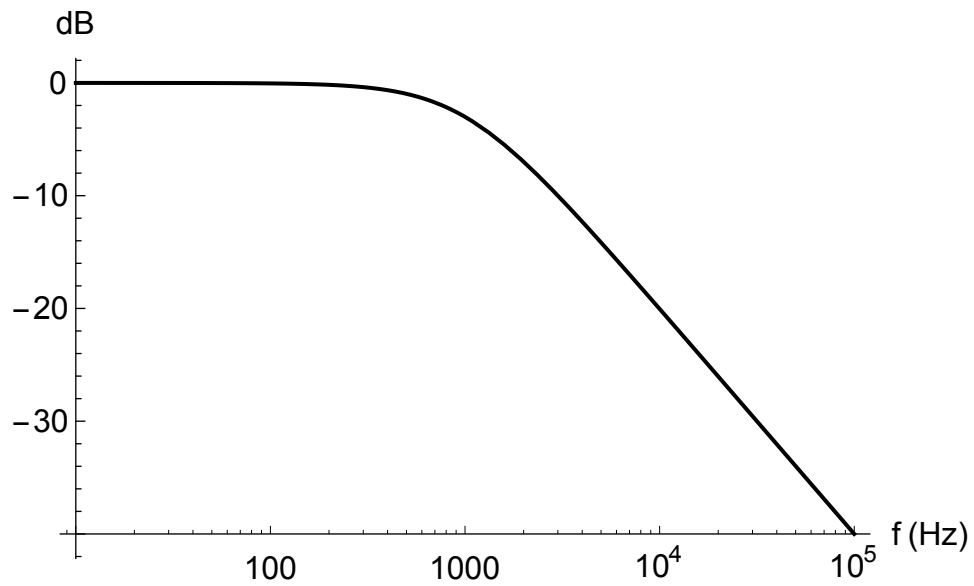
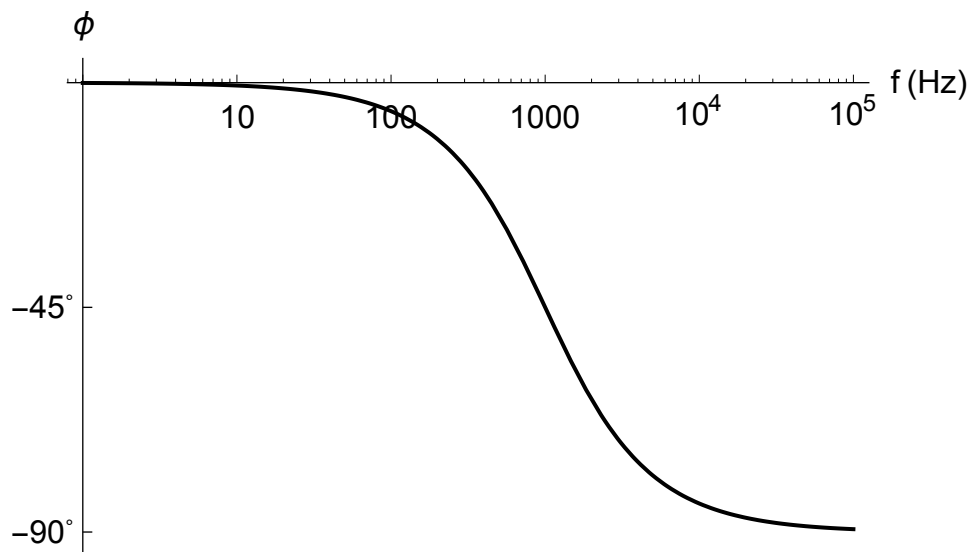

Figure 4: Bode amplitude plot for a low-pass RC filter.
Figure 5: Bode phase plot for a low-pass RC filter.
- For each filter, plot the data and theoretical curves together. For the amplitude plots, use the decibel (dB) scale $20 \log_{10} A(\nu)$ for the vertical axis and $\log \nu$ for the horizontal axis as in Fig. 4. For the phase plots, use a linear vertical axis for the phase and $\log \nu$ for the horizontal axis as in Fig. 5. Determine the *breakpoint* or *characteristic* frequency from the data plots by identifying the -3dB point on the amplitude plot (also known as a Bode plot) and the 45° point of the phase plot.